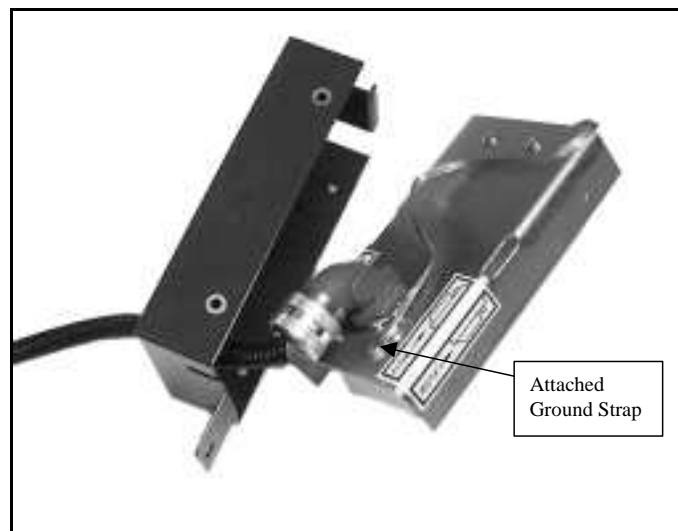

Figure 20. Moisture sensor
1. Remove (1) sheet metal screw that attaches aluminum plate to plastic housing of moisture sensor. Install ground terminal strap of moisture sensor on screw as shown in Figure 20.
2. Feed moisture sensor cable through hole in top of moisture sensor cover from enclosed side out as shown in Figure 20.
3. Slip aluminum housing of moisture sensor into holder until all (4) holes in aluminum housing line up with (4) holes in holder.
4. Install (4) #8 x 3/8 in. self-tapping screws through holes in moisture sensor holder into aluminum plate of moisture sensor.